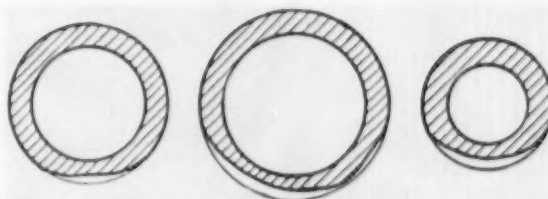

Fig. 5—External etching action on outer surface of boiler wall tubes, above, occurs in spots directly hit by the flame in certain slag-tap furnaces.
External corrosion has been evidenced on some furnace tube walls of slag-tap furnaces. It manifests itself as a weakening of the tube produced by an external etching action, Fig. 5. The evidence indicates this form of corrosion occurs only in slag-tap furnaces, but in both bare tube and refractory-faced tube walls, and is confined to spots directly hit by the flame. It is attributed to compounds formed by the combination of the sulfur in the coal with the tube metal. Reid and Cohen (5) thoroughly investigated this form of tube corrosion.
But for the majority of cases the burners had to be reconstructed to eliminate corrosion. Fig. 6 is an example. Here the corner burner design shown on the left caused intensive corrosion of tube surfaces, Fig. 5. Rebuilding to design, right, above, corrected the trouble.